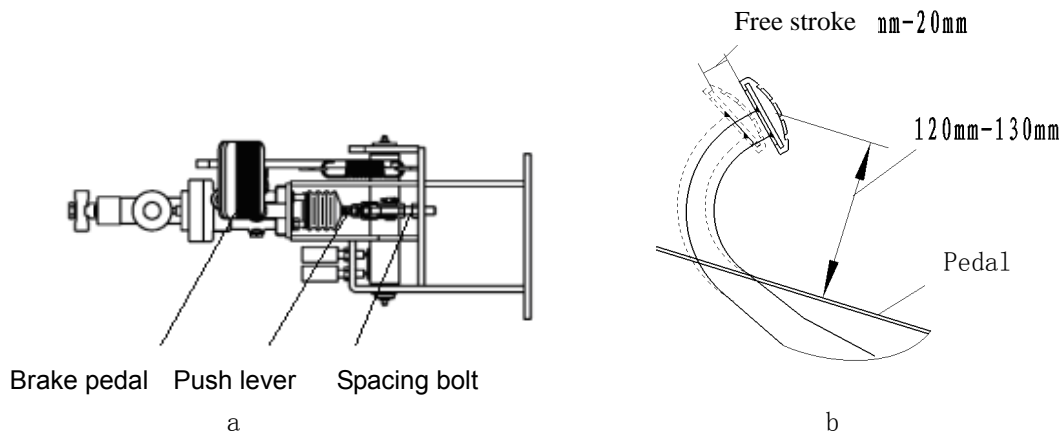

Figure 2-6
2.6 Adjusting the brake pedal as shown in Figure 2-6
shown in Figure 2-6 (b);